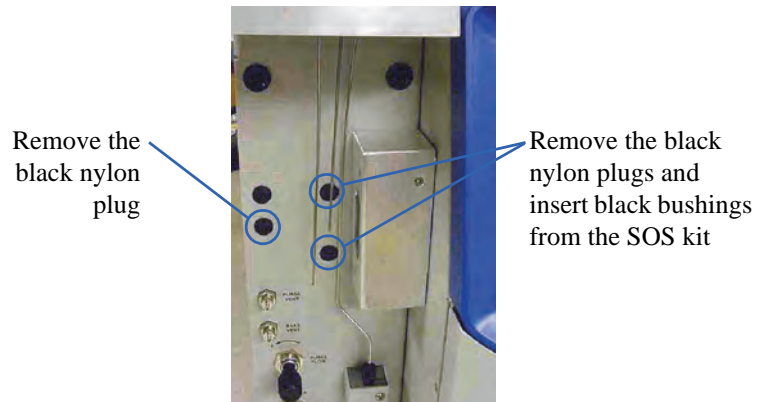

Figure 10.2. Remove the black nylon plugs
5. Remove the black nylon plugs from the two middle holes behind the purge-drain needle (Figure 10.2). Insert black bushings from the SOS kit into these two holes.